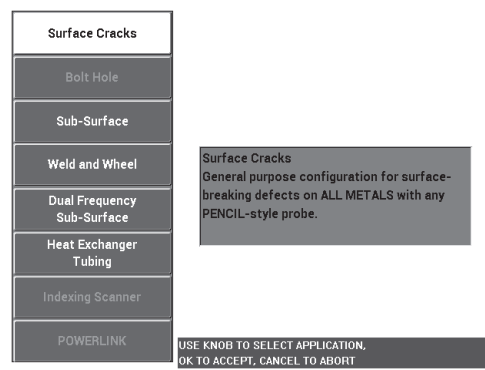

Figure 5-2 The Surface Cracks application
2. Press the ADV SETUP menu key () once, followed by the A key (**APPL SELECT**) to open the application selection menu. Select **Surface Cracks** with the knob (SmartKnob), and then press  to accept (see Figure 5-2 on page 127).